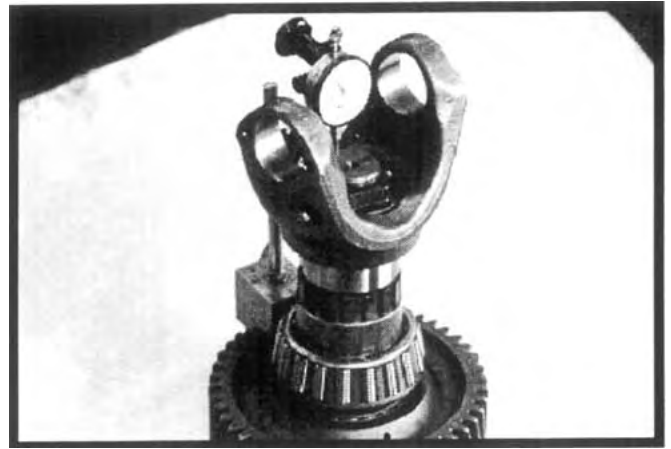

Figure 4.21
1. To facilitate reassembly, the gear end float on the shaft should be checked prior to disassembly. Temporarily install the drive yoke (or flange) on the shaft and torque the locknut to specification. For convenience, Fabco Tool 884-0246 may be used instead of the yoke. See Section 8.2 in this manual. Install a dial indicator with a magnetic base as pictured in Figure 4.21. Lift upward on the gear and note the amount of end float. The specified amount of end float is between .000 and .002 inches. A greater amount usually indicates worn bearings.